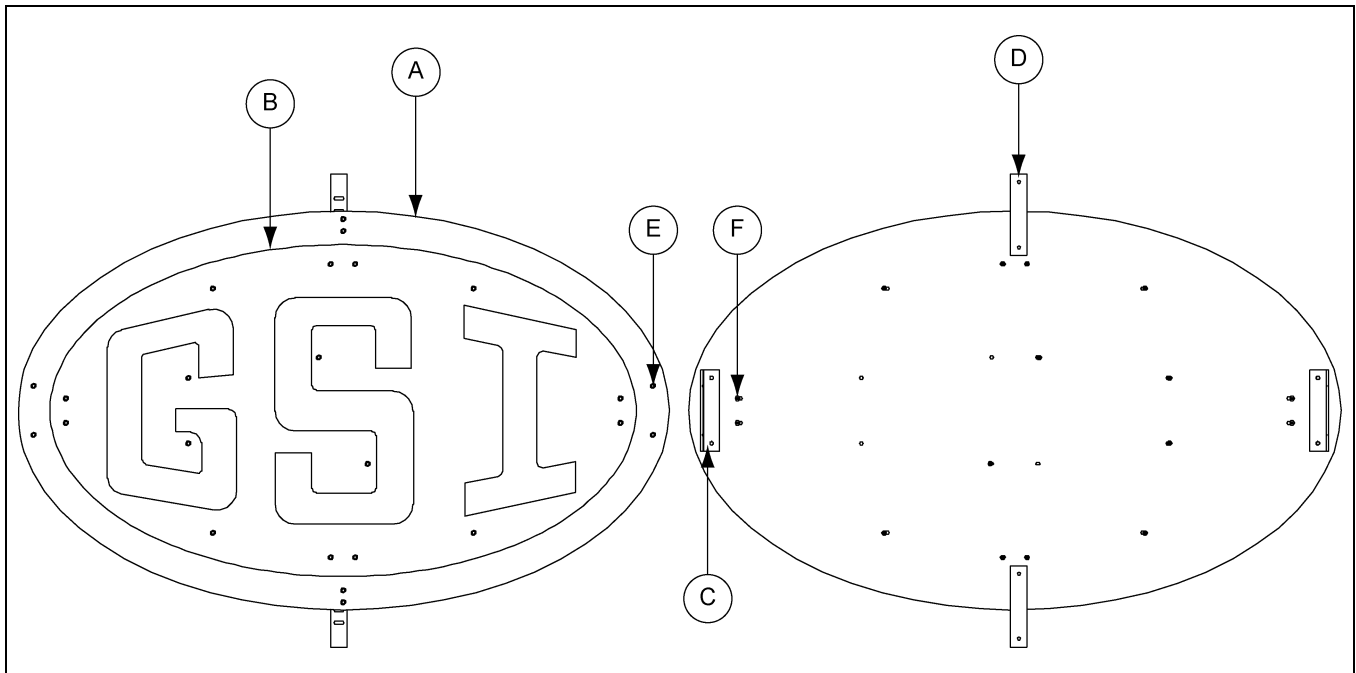

Figure 1
1. Construct MIS-7011 (A) and MIS-7010 (B) by using bolts (S-275) (E) and nuts (S-396) (F).
4. Finish by fully tightening bolts. (See Figure 1.)